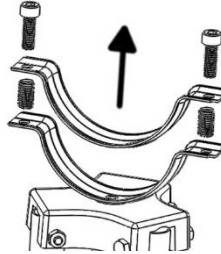

Figure 1
- a. Remove bolts and springs from barrel clamp at top of tripod (Fig. 1).